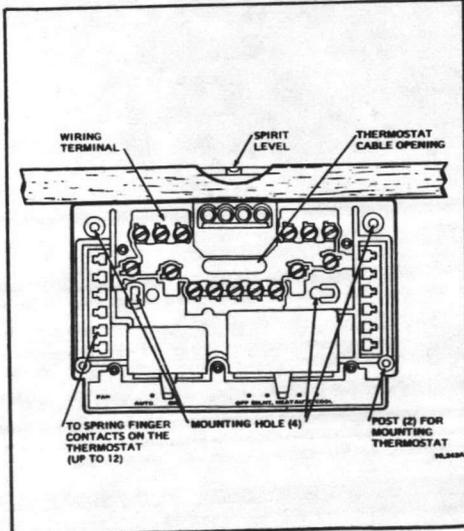

Fig. 3—Leveling the subbase.
2. Pull wires through the cover plate (if used) and subbase cable opening (Fig. 3).
4. Level the subbase using a spirit level, as shown in Fig. 3, and firmly tighten subbase mounting screws. The subbase mounting holes provide for minor out-of-level adjustments.